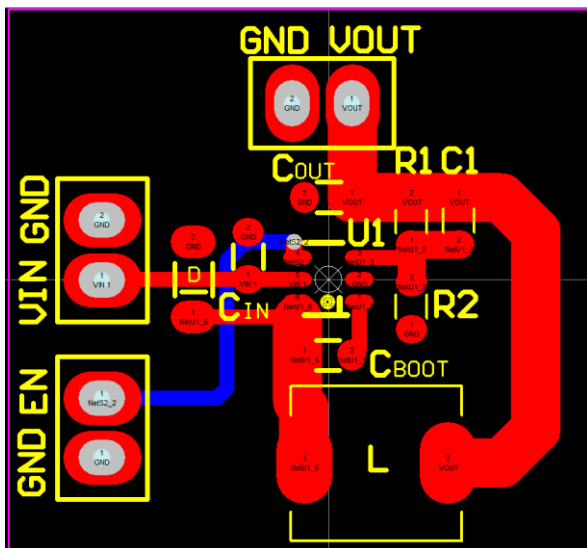

Figure 22. PCB Layout
For proper operation and minimum EMI, care must be taken during printed circuit board layout. Figure 22 shows the recommended component placement with trace, ground plane and via locations. Note that large, switched currents flow in the ATDC1934 VIN and SW pins, the catch diode (D) and the input capacitor (CIN). The loop formed by these components should be as small as possible. These components, along with the inductor and output capacitor, should be placed on the same side of the circuit board, and their connections should be made on that layer. Place a local, unbroken ground plane below these components. The SW and BOOST nodes should be as small as possible. Finally, keep the FB nodes small so that the ground traces will shield them from the SW and BOOST nodes. The Exposed Pad on the bottom of the package must be soldered to ground so that the pad acts as a heat sink. To keep thermal resistance low, extend the ground plane as much as possible, and add thermal vias under and near the ATDC1934 to additional ground planes within the circuit board and on the bottom side.